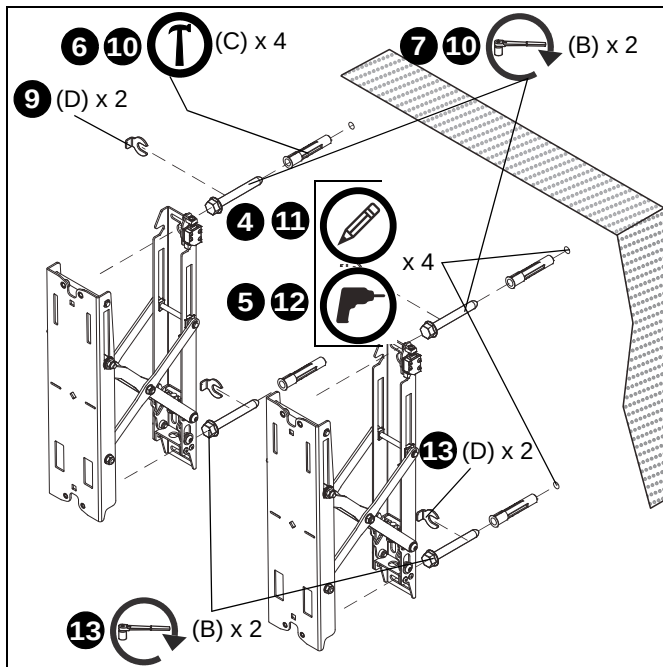

Figure 3
4. Using a level, mark the wall through both upper mounting slots. (See Figure 3)
7. Partially install two 5/16 x 2-1/2" flanged lag bolts (B) into pilot holes but do not tighten to wall.
8. Hang accessory (A), aligning upper mounting slots over lag bolts, and adjust side-to-side for proper location.
9. Place one slotted washer (D) over each flanged lag bolt. (See Figure 3)
10. Tighten lag bolts to secure accessory (A) to wall at upper mounting slots.
11. Mark the attachment points for the lower mounting slots, making sure the attachment points are located on the studs. (See Figure 3)
12. Drill 3/8" x 3-1/2" (9.5mm x 88.9mm) pilot holes at markings for lower mounting holes. (See Figure 3)
13. Use two 5/16 x 2-1/2" flanged lag bolts (B) and two 5/16" slotted washers (D) to attach the accessory to the wall through the lower mounting holes. (See Figure 3)